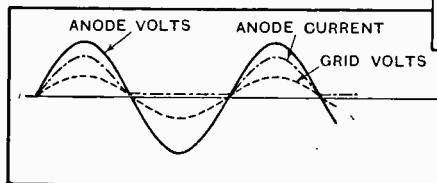
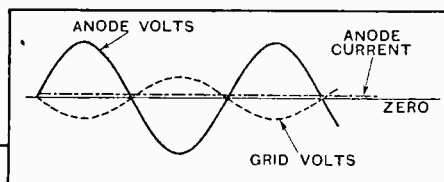

Fig. 3.—The grid volts arranged to be in phase with the anode volts.
Fig. 2.—The grid volts 180° out of phase with the anode volts.
A.C. Grid Control.—The disadvantage of the above D.C. grid control is that the anode current can only be cut down to half-value. A better method is to utilise phase differences in anode and grid voltages. Now let us refer to the diagram of the anode voltage wave shown in Fig. 2. By making the grid volts 180° out of phase with the anode volts the grid voltage will gradually become more negative as the anode becomes more positive, so that the grid exercises complete control throughout the positive half-cycle, no discharge can take place and no anode current can flow. This is providing the anode voltage does not exceed the amplification factor of the Thyatron multiplied by its grid voltage.
In Fig. 3 the grid volts are shown in phase with the anode volts, and it will be seen here that the grid permits current to flow during practically the whole of the positive half-cycle. Referring to Figs. 2, 3, and 4, it will be seen that by a continuous control on the phase difference between anode and grid voltage any proportion of the maximum anode current can be made to pass from complete cut-out to maximum current.